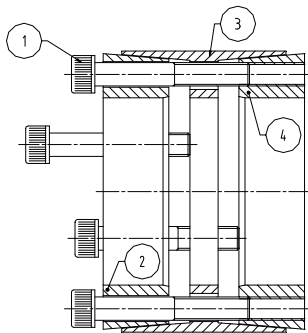

Fig. 1
(Refer to fig.1)
2. Loosen all screws by minimum 3 turns and transfer at least 2 screws to push-off threads in clamp collar item [2] and center collar item [3] in order to disengage tapers for easy installation of locking assembly (see fig. 1).